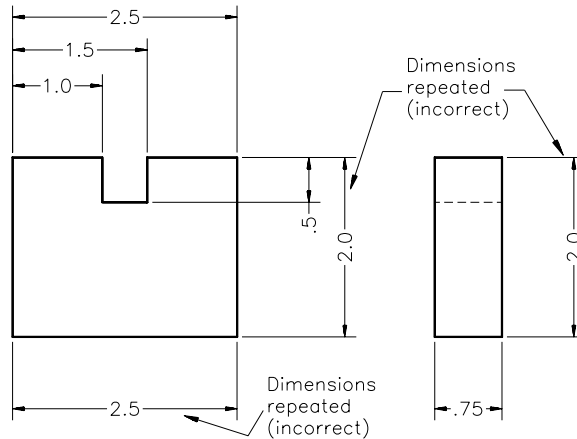

Figure 22-37 Dimension must not be repeated
11. The dimensions must not be repeated; this makes it difficult to update a dimension (Figure 22-37).